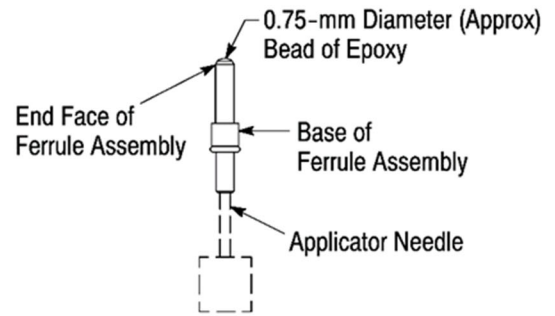

Figure 5
2. Hold the ferrule assembly vertically, and insert the needle tip into the base of the ferrule assembly until it is against the back (end closest to the base) of the ferrule assembly. Refer to Figure 5.